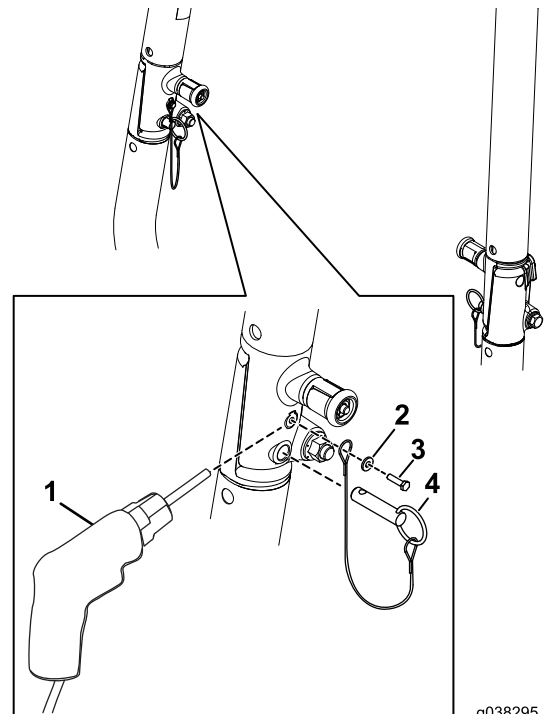

Figure 6
1. Use a #18 (0.170 inch) drill bit and drill out the lanyard hole in the ROPS (Figure 6).
2. Use the self-tapping screw (#10 x 3/4 inch) and washer to secure the ROPS-pin assembly to each side of the ROPS assembly (Figure 6).
3. Insert the ROPS pin into the hole in the ROPS (Figure 6).